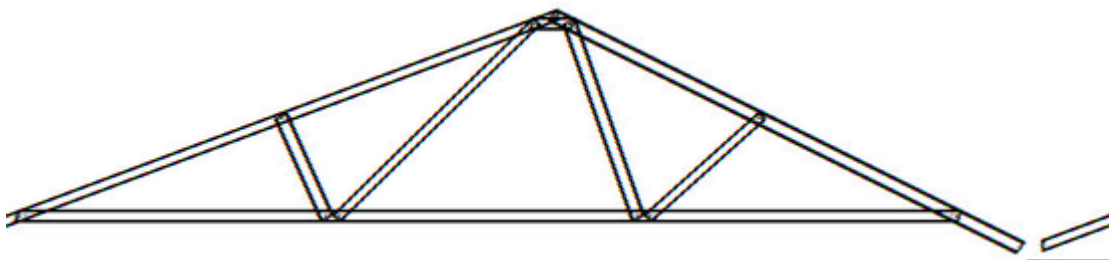

Figure 5.3 Standard 'A' Truss/ Dutch Gable Truss
5.1) **Standard A-Truss:** An A-framed truss supported at both ends by load bearing walls. It forms the main gable roof block (Refer to Figure 5.3).